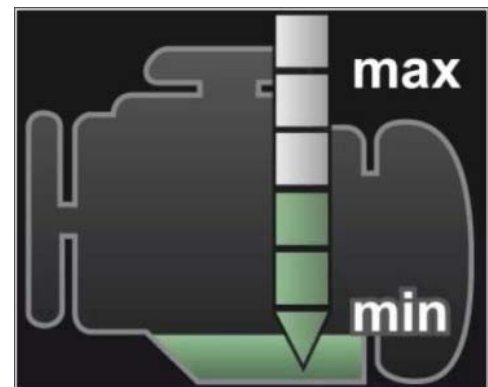

Figure 1
- 2 **Only** if the engine-oil level that is read off the oil level display in the instrument cluster as shown in ⇒ *Figure 1* is **at least two segments below the MAX marking**: Measure the engine-oil level as described in ⇒ *Workshop Manual '170101 Checking engine-oil level'* using the **oil gauge tester T40178** and add engine oil up to the MAX value if necessary (invoicing: Scope 2).